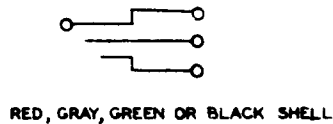

Fig. 10—310 Plug
2.09 310: The 310 plug (Fig. 10) has three conductors and is equipped with a long shell which covers the cord end of the plug body to provide additional insulation. The 310 plug replaces the 110 plug and is used with the 49- or similar-type jacks.